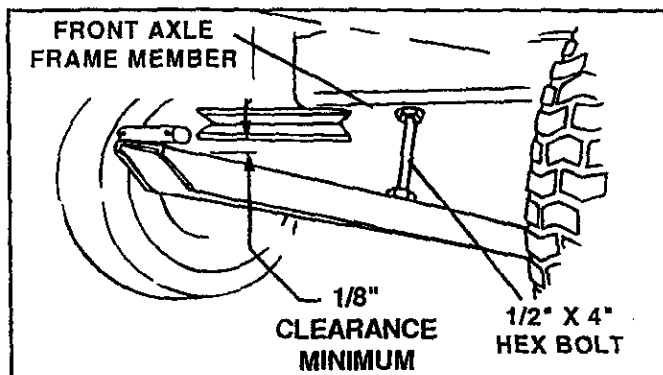

FIGURE 12
4. Adjust 1/2" x 4" stop bolt, previously assembled into channel assembly (step 1). See figure 12. Adjust hex nuts, above and below channel, to provide a **minimum 1/8" clearance** between channel and the tractor engine pulley with the stop bolt positioned against front axle frame member. See figure 12.